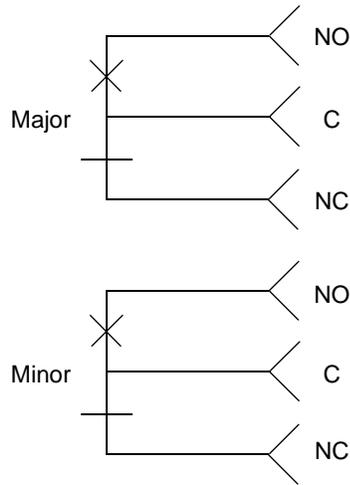

Figure 3-3 Major and Minor Alarm Contacts
Individual Major and Minor alarm connections for each Echo Cancellor Module are provided at the connectors labeled **EC01** through **EC20**. As shown in Figure 3-3, each connector provides a Normally Open (NO), Normally Closed (NC), and Common (C) relay contact for both the Major and Minor alarms.